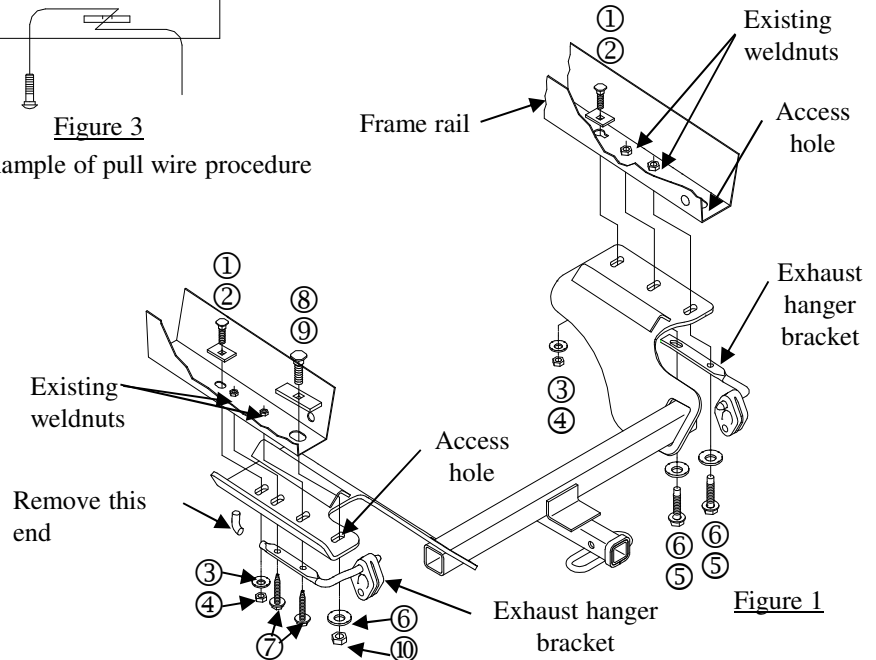

Figure 1
- Reattach exhaust hanger brackets as shown in Figure 1 using fasteners provided with hitch.